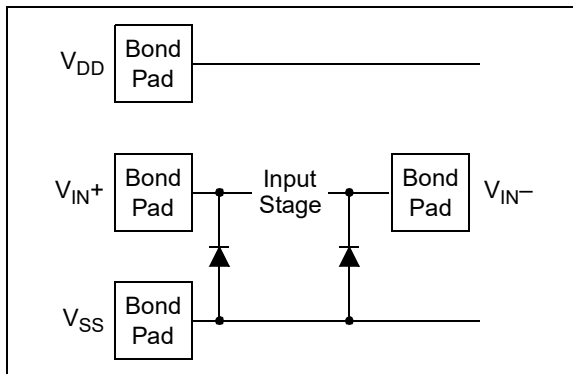

FIGURE 4-1: Simplified Analog Input ESD Structures.
The ESD protection on the inputs can be depicted as shown in Figure 4-1. This structure was chosen to protect the input transistors and to minimize input bias current (IB). The input ESD diodes clamp the inputs when they try to go more than one diode drop below V_{SS} . They also clamp any voltages that go too far above V_{DD} . Their breakdown voltage is high enough to allow normal operation, and low enough to bypass ESD events within the specified limits.